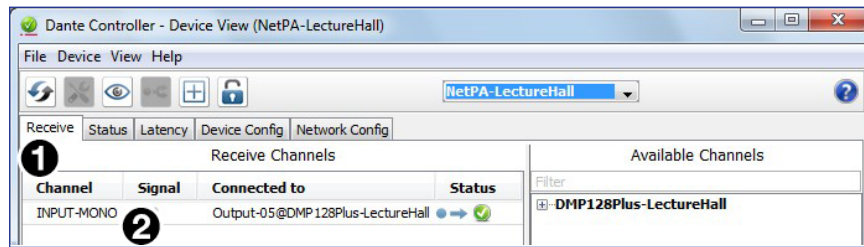

Figure 19. Device View Screen – Renaming an Input
3. Select the **Receive** tab (see figure 19, ❶).
4. Click the default name of the desired input. The name becomes a text box with a cursor (❷).